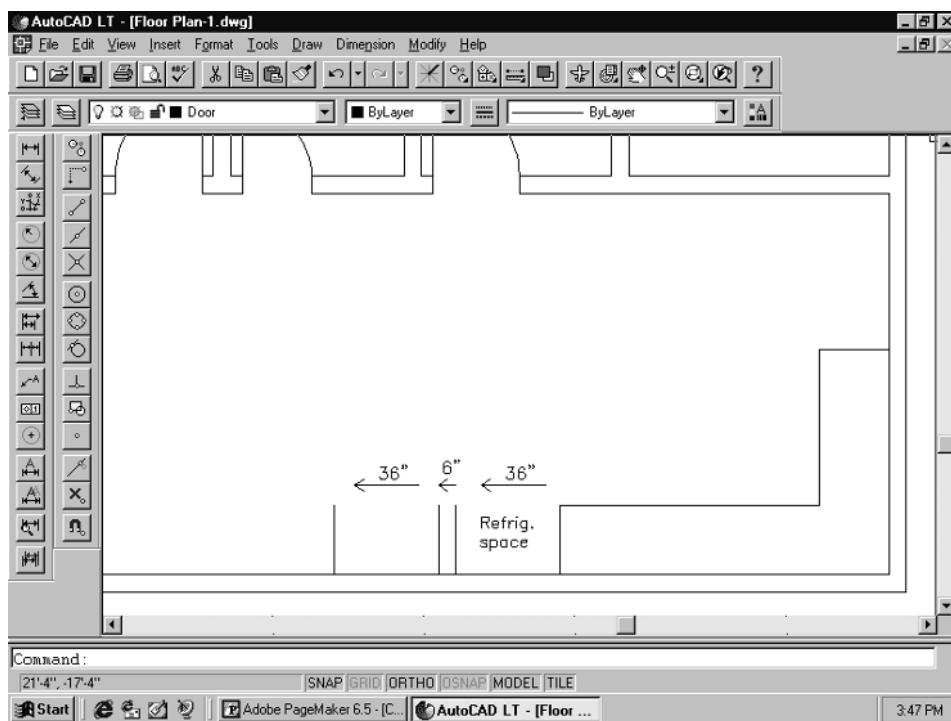

Figure 2-71
1. First, offset the left-hand side of the kitchen counter **36"**. This will be the space for the refrigerator. Next, offset that line **6"** to the left to represent the first jamb for the front door. Then offset it **36"**. This will represent the other door jamb. See Figure 2-71.